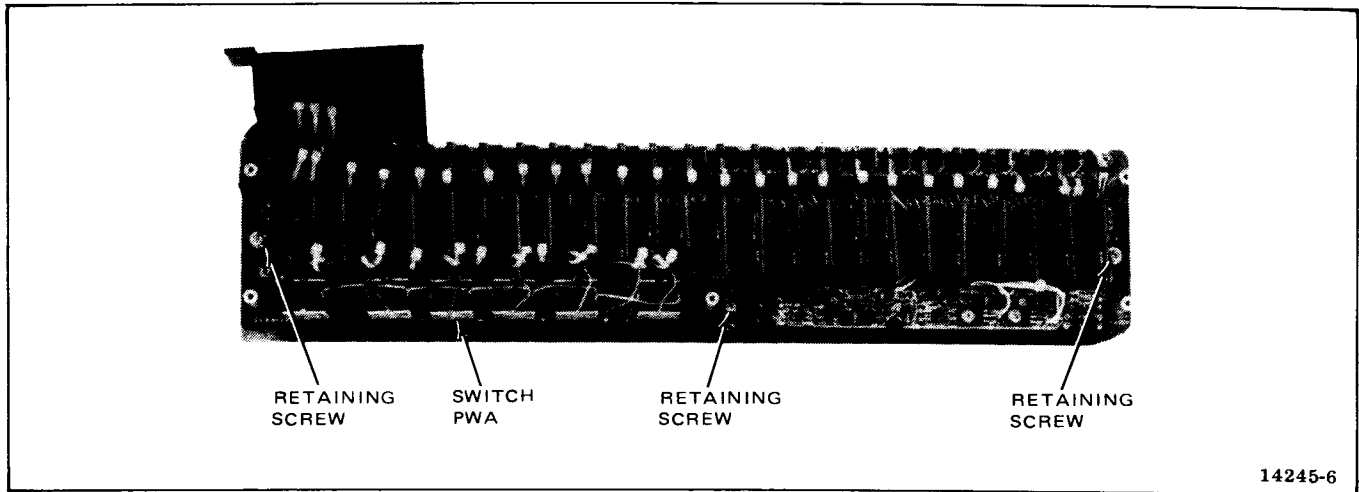
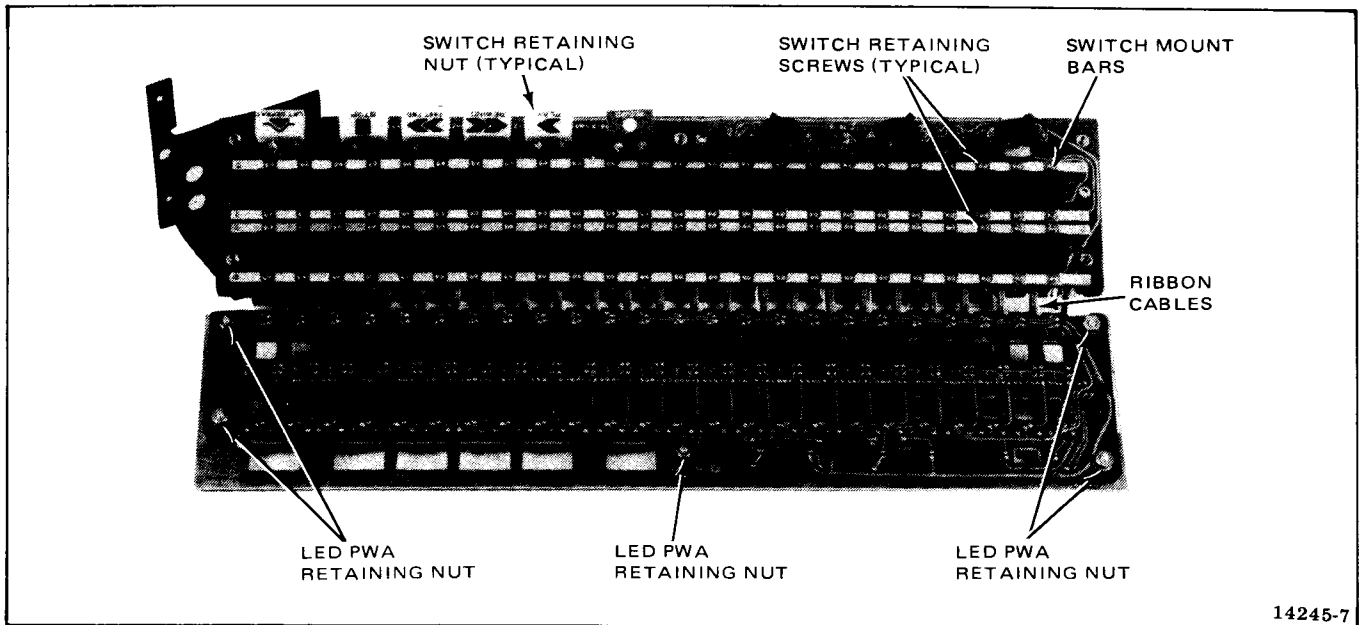

Figure 5-22. Switch PWA Disassembly
Figure 5-23. Switch Replacement
1. Remove three 8/32 screws that secure the switch PWA to the LED PWA (see Figure 5-22), and carefully separate the two assemblies, allowing them to hinge apart on the ribbon cables (see Figure 5-23).
3. Remove the two 2/56 retaining screws that secure the switch to the mounting bar (see Figure 5-23).
3. Remove the retaining nut from the switch and remove the switch (see Figure 5-23).
2. Remove five 6/32 hex nuts and washers from the rear of the LED PWA (see Figure 5-23), and remove the escutcheon plate.